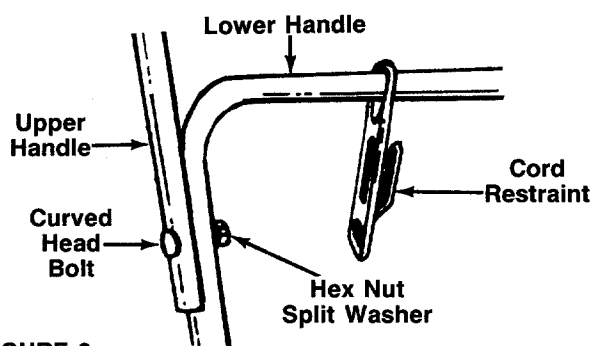

FIGURE 2.
- Slide the cord restraint over the lower handle as shown in figure 2, page 6.
1. Place the upper handle in position over the lower handle. The two holes for the motor/blade control must be on the right hand side of the handle. Secure the upper handle using the curved head bolts, split washers and hex nuts as shown in figure 2. Make sure the cord restraint is on top of the upper handle.